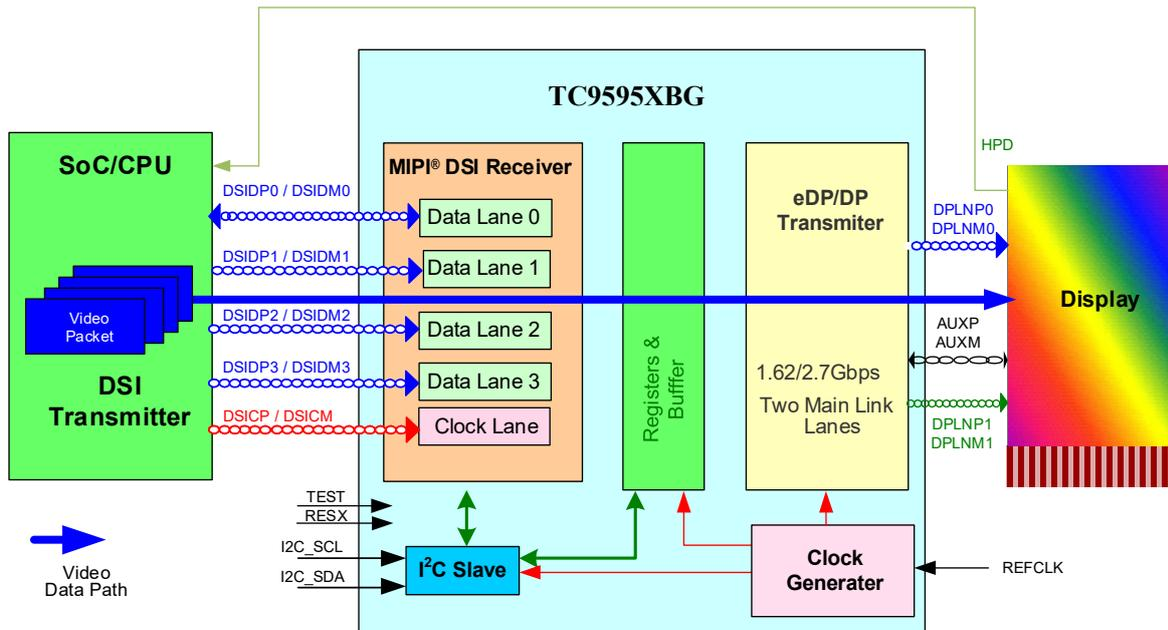

Figure 1.1 System Overview with TC9595XBG in MODE_S21 Configuration
- **Mode_S21:** A system configuration where TC9595XBG may typically be used is shown in Figure 1.1. In this configuration, the TC9595XBG can support displays with resolution up to WUXGA (1920×1200) at 24bit, 60 fps or WUXGA (1920×1200) at 18bit, 60 fps. Video stream source is from DSI Host.